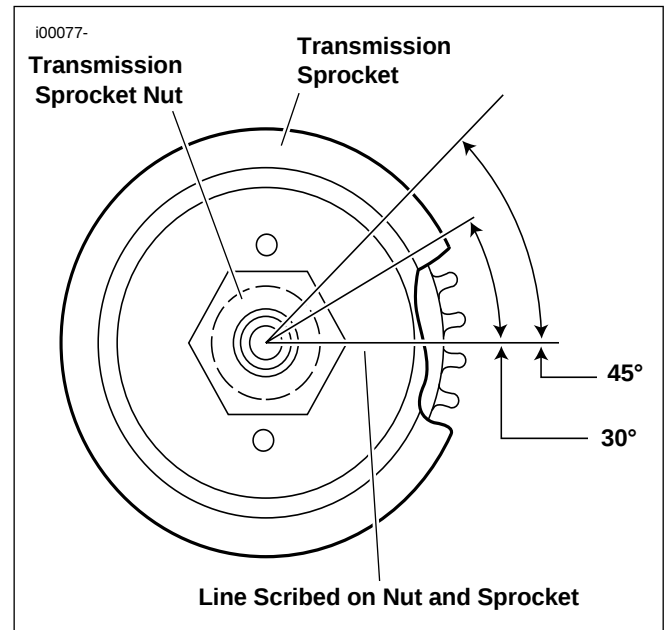

Figure 6-62. Aligning Transmission Sprocket
- b. See Figure 6-62. Scribe a line on the transmission sprocket nut and continue the line on the transmission sprocket as shown.
- e. See Figure 6-62. If lockplate will not align with holes, tighten nut to 45° maximum.